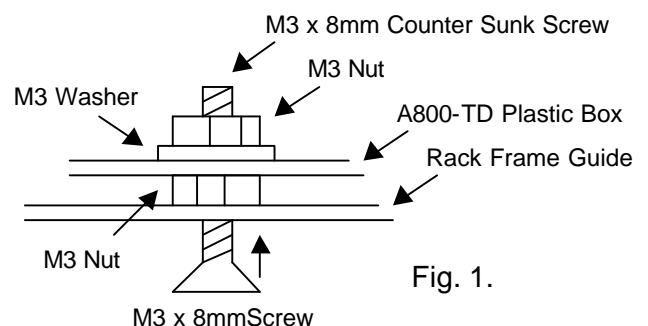

Fig. 1.
1. Mount the A800-TD to one of the guide rails on the top of the rack-frame using the counter sunk screws, washers and nuts supplied, as per Fig. 1.